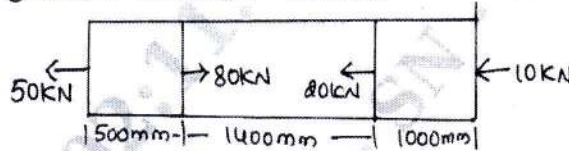

Fig. Q2(b)
- b. A brass bar having cross – sectional area 300mm^2 is subjected to axial forces as shown in Fig. Q2(b). Find the total elongation of the bar. $E = 84\text{GPa}$. (06 Marks)
- c. The composite bar shown in Fig. Q2(c) is 0.2mm short of distance between the rigid supports at room temperature. What is the maximum temperature rise which will not produce stresses in the bar? Find stresses induced when temperature rise is 40°C . Given $\alpha_s = 12 \times 10^{-6}$ per $^\circ\text{C}$, $\alpha_c = 17.5 \times 10^{-6}$ per $^\circ\text{C}$, $E_s = 2 \times 10^5 \text{N/mm}^2$, $E_c = 1.2 \times 10^5 \text{N/mm}^2$, $A_s : A_c = 4 : 3$. (08 Marks)